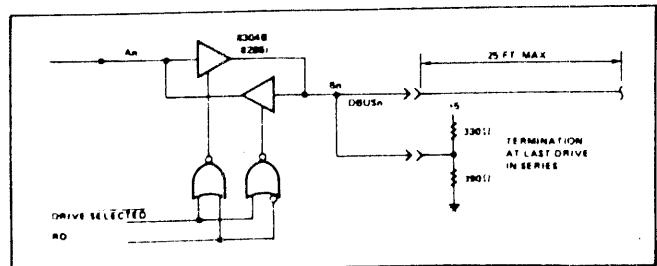

Figure 10.4-1 DBUS Transceiver
1 +DBUS 0-7. This high-active 8-bit wide bus is used to transfer commands and status (head carriage control and interface) between the disc drive and the controller. These lines connect directly to an 8304B (or 8286) bus transceiver, as shown in Figure 10.4-1. DC characteristics are listed in Table 10.4-1. These lines should be terminated at each end.
10.4 **Interface DC Characteristics.** This section, through tables and figures, sets forth the details that need to be observed, in order to properly transmit and receive the interface signals. The signal characteristics are shown in Table 10.4-1 to 10.4-5 and Figures 10.4-1 to 10.4-6